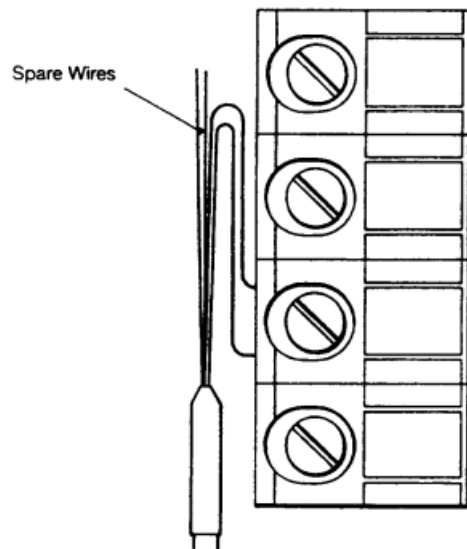

Figure 6 Position of Dropwire in BT 76/86
4. Insert the conductors fully into the rocker, hold them in position and screw the rocker fully down. Once the rocker has reached the bottom of its travel, further tightening of the screw is unnecessary. Give each leg of the dropwire a gentle pull to ensure that the termination has been correctly made and then form the pair into a 'swan neck' to ensure that there is no strain on the termination (see Figure 6).